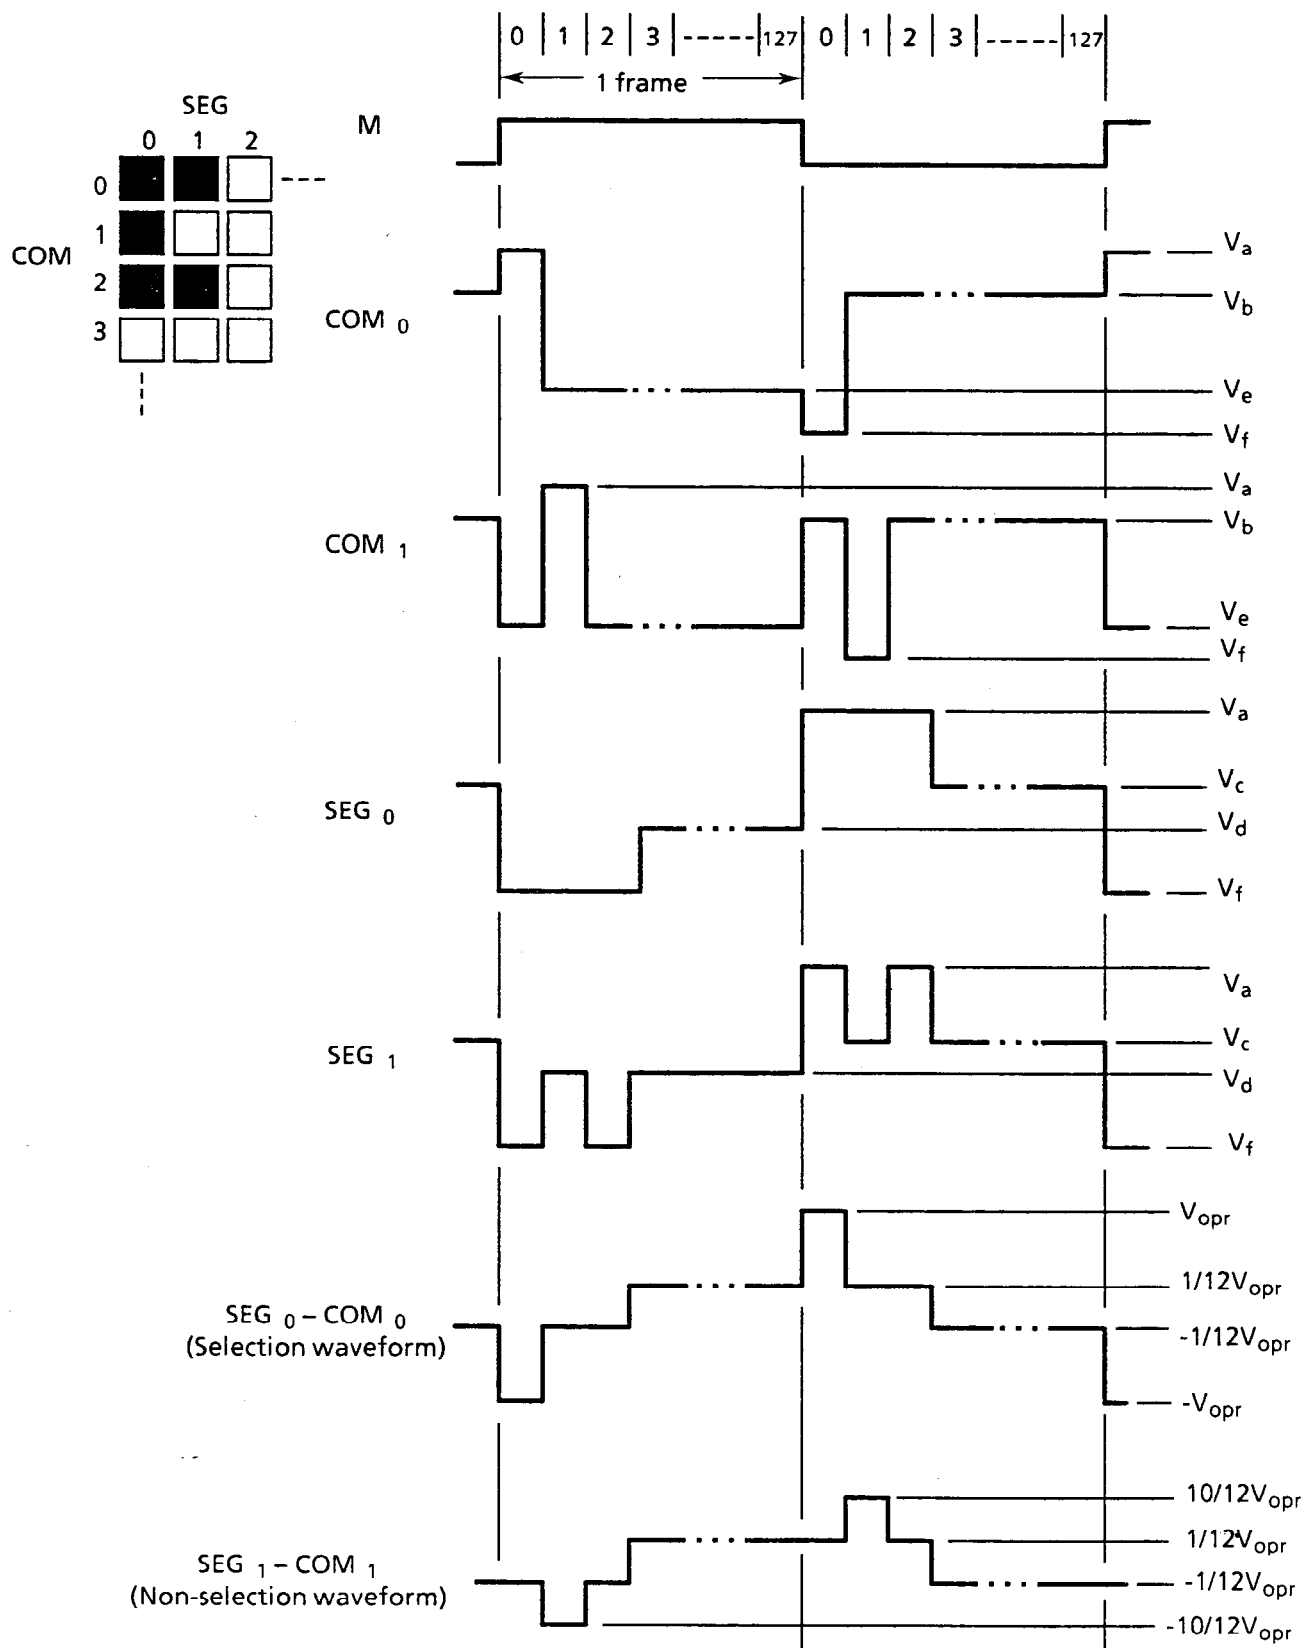

Figure 2 Drive waveform
The drive waveform of the LCD panel is shown in Figure 2 on the next page. Since DC voltage will damage the liquid crystal, an AC voltage is applied between the two frames. The signal controlling this is the liquid crystal AC drive control signal (M).
The G191C has a 1/128 duty cycle, and the common electrodes are selected within a frame by time division from electrode 1 to electrode 128. This is called line sequential scanning. The voltage level of the segment electrodes determines whether the dots at the intersection of the segment electrodes are selected or not, when the common electrode is selected. As shown in Table 1, there are six drive waveform voltage levels, V_a to V_f . The voltage level is determined by the bias value. The voltage between the segment and common electrodes is thus applied to the liquid crystal. The selection waveform for SEG_0-COM_0 and the non-selection waveform for SEG_1-COM_1 are shown in Figure 2. The size of the effective voltage of the waveform determines whether the liquid crystal under the selected dots is in the selection or non-selection state.